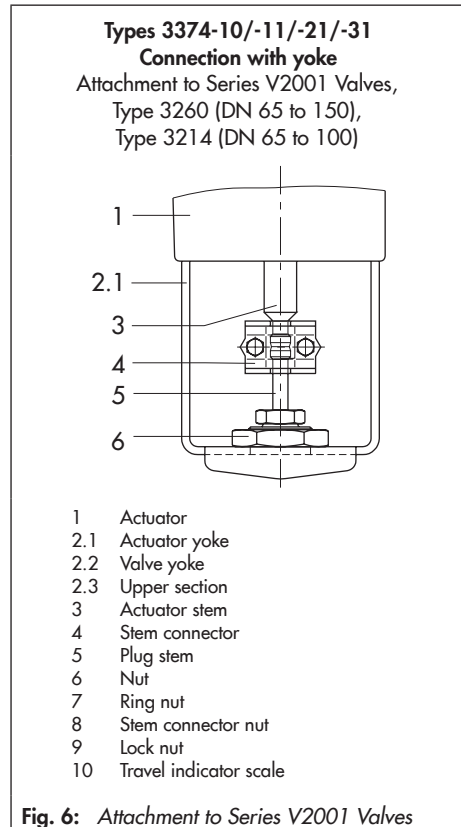

Fig. 6: Attachment to Series V2001 Valves
- ➔ Refer to Fig. 6
4. Remove protective covers and unscrew nut (6) from the valve.
6. Retract actuator stem (3) as described in section 3.3.
8. When the plug stem (5) fits closely onto the actuator stem (3), attach both stem connector clamps (4) and fasten with screws.